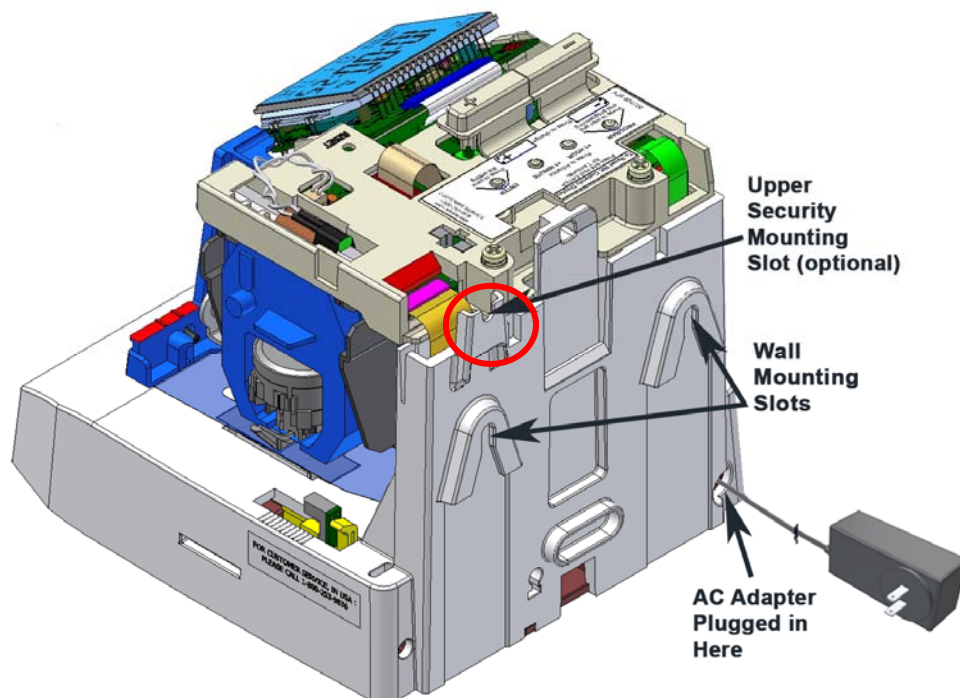

Figure 2: TCX-85 Rear View for Wall Mounting.
1. Using the supplied mounting template (see last page of this guide), mark the two (2) mounting slots on the wall. A 3rd mounting slot can be used to provide security (see Figure 2).
4. If security is an issue for removing the TCX-85 from the wall, remove the cover, and use the upper mounting slot (see Figure 2 and Figure 8 on page 2-30) to firmly secure the back of the TCX-85 to the wall. Secure to the wall using #10 wood screw (or equivalent).